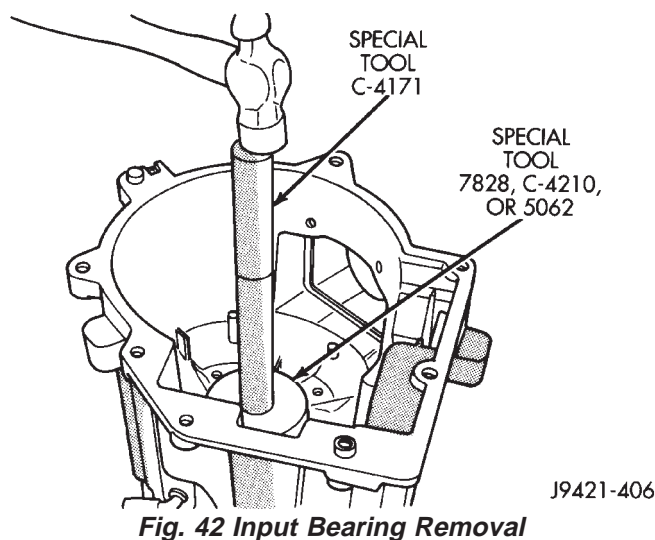

Fig. 42 Input Bearing Removal
(27) Remove input bearing from front case with Driver Handle C-4171 and Tool C-4210 or 7828, whichever fits best (Fig. 42). **Bearing can only be removed from case interior because of bearing locating ring.**